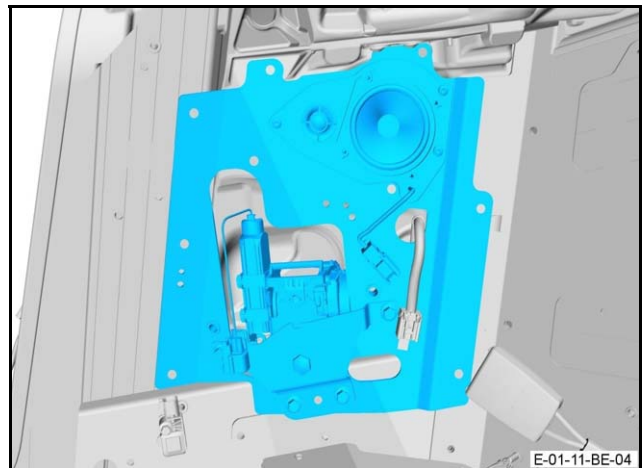

Figure 5
19. Remove the seat belt inertia reel and speaker holding plate (Refer to Figure 5)